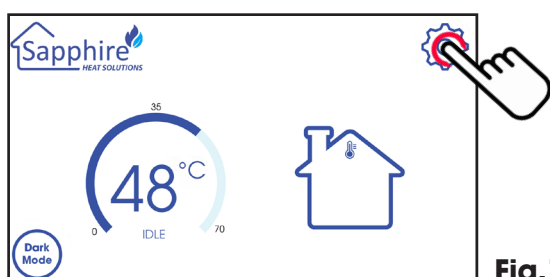

Fig.10.2
- Press the "Setting icon" in the top right hand corner to open the "Service & Commissioning Screens" **Fig. 10.2**